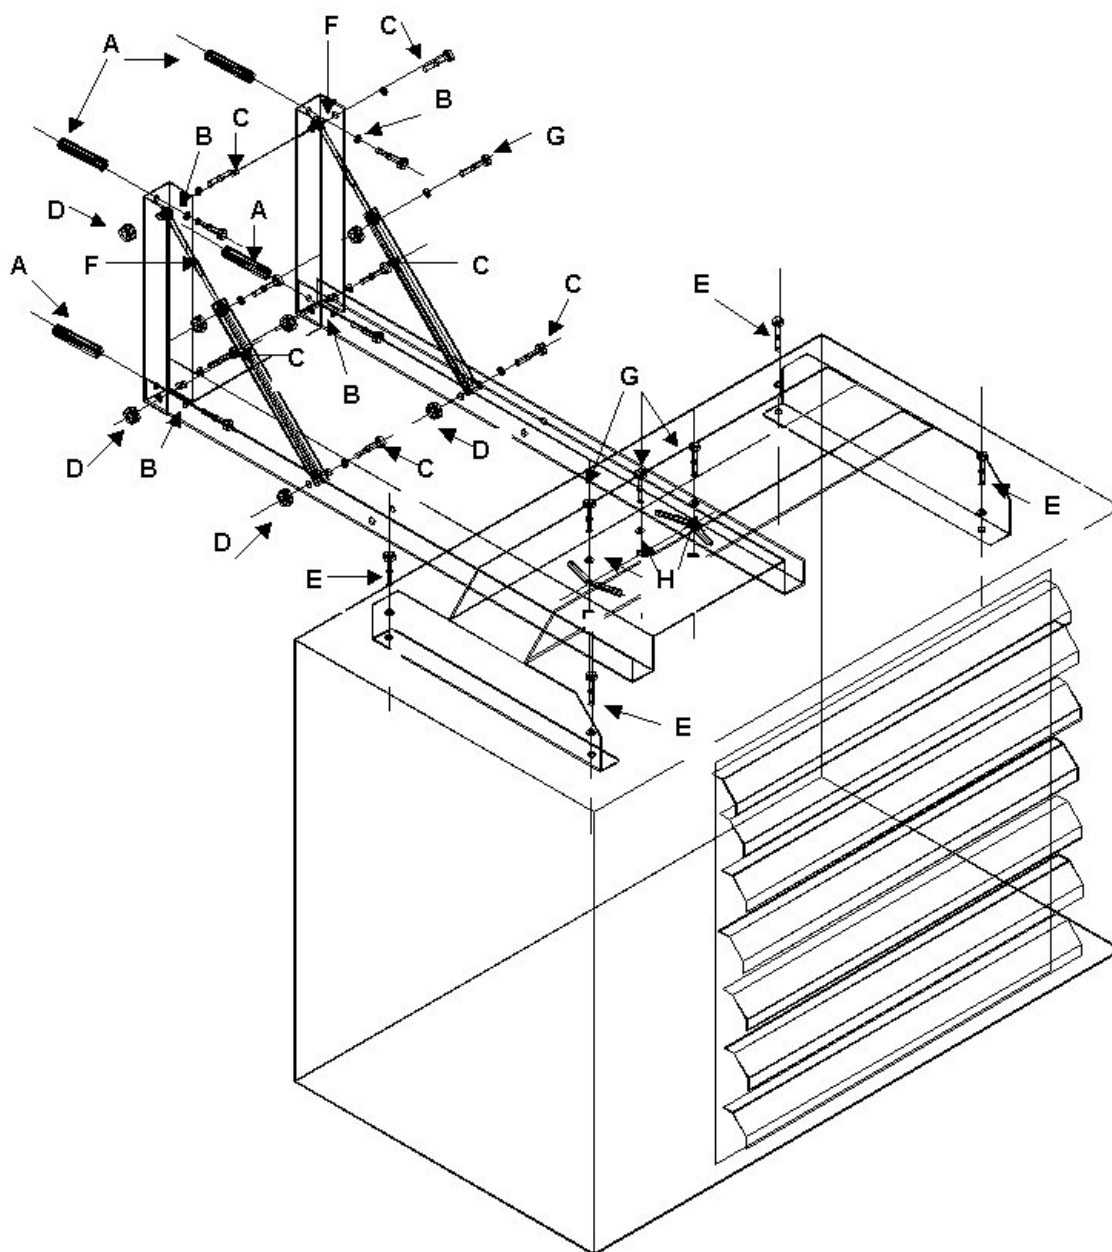

fig. 12
- ✓ Assemble the brackets' various component elements using the screws supplied as illustrated in fig. 12.
Fig. 12 illustrates the brackets' assembly and how to secure the heater correctly to said brackets.